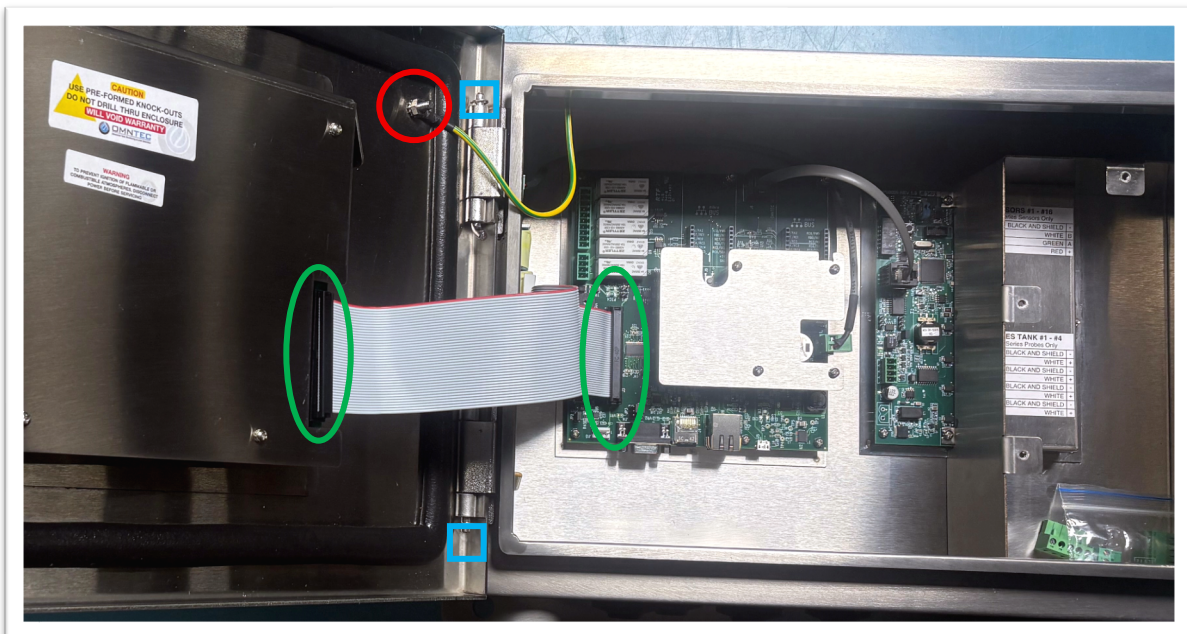
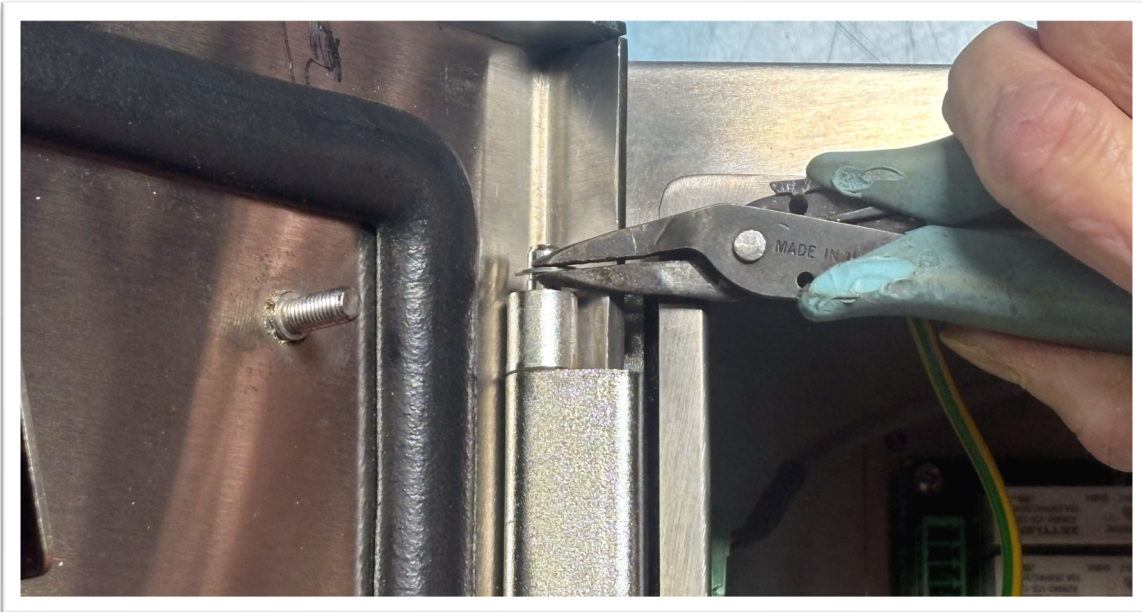

Figure 1.1
Figure 1.2
2. Unlatch and open the front display door. With the front door open from the panel, unscrew the Ground wire nut using an 8mm metric nut driver. (Figure 1.1; red circle).
3. Disconnect the wide, gray ribbon cable from the door/display side as well as the MCU side. Take note of how these connectors are seated for when you reinstall later. (Figure 1.1; green circles)
4. Carefully remove the retaining rings from the hinge pins using needle-nose pliers. (Figure 1.1; blue squares, and Figure 1.2).